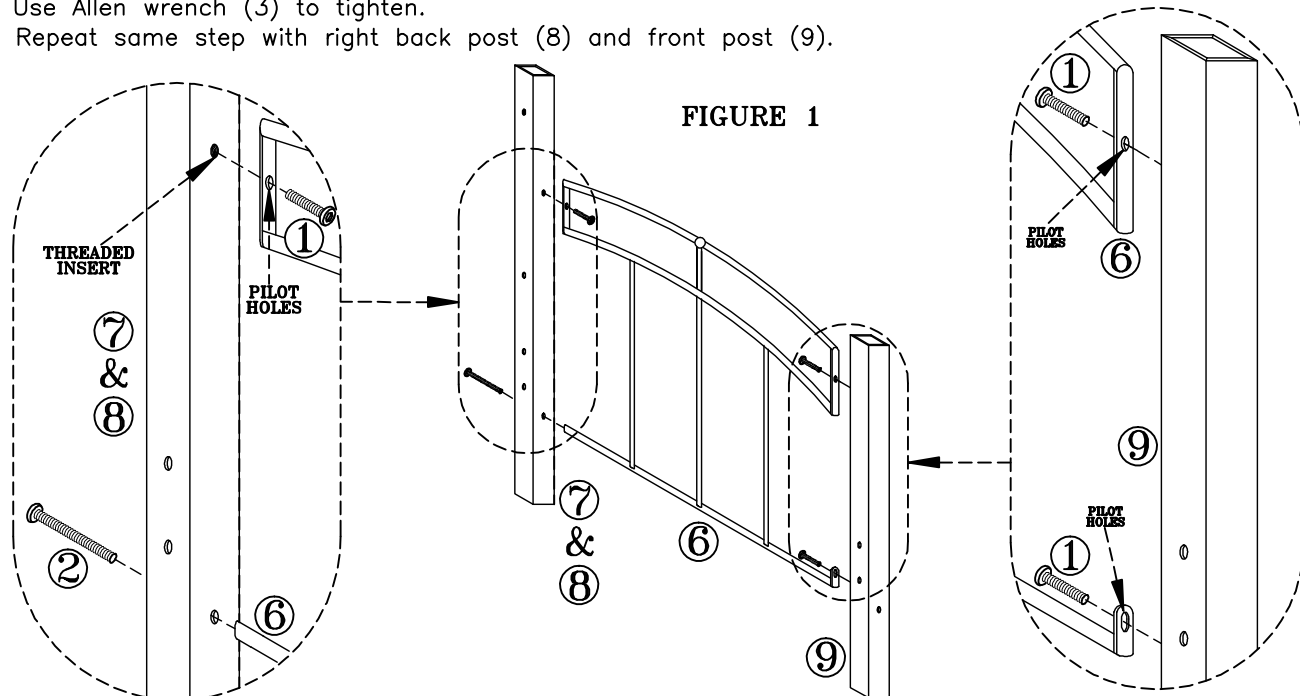

FIGURE 1
- Align side panel (6) pilot holes with threaded inserts on left back post (7) and front post (9). SEE FIGURE 1
- Secure side panel (6) to left back post (7) and front post (9) with screw (1) and screw (2). Use Allen wrench (3) to tighten.
- Repeat same step with right back post (8) and front post (9).